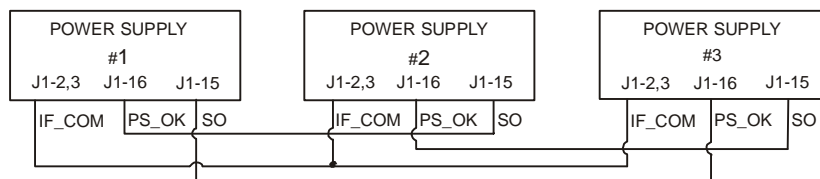

Fig.5-6: Daisy-chain connection
5.15.1.3. Daisy Chain Connection: (See Fig. 5-6)
- f) Connect J1-2 (or J1-3) common to all supplies (See Fig. 5.6).
- f) Switch SW1 position 5 should be in its down position for all power supplies (See Fig. 5.6).
- k) Connect J1-2 (or J1-3) common to all supplies (See fig. 5.6).
Fig.5-6 shows connection of three units, however the same connection method applies to systems with a larger number of units.